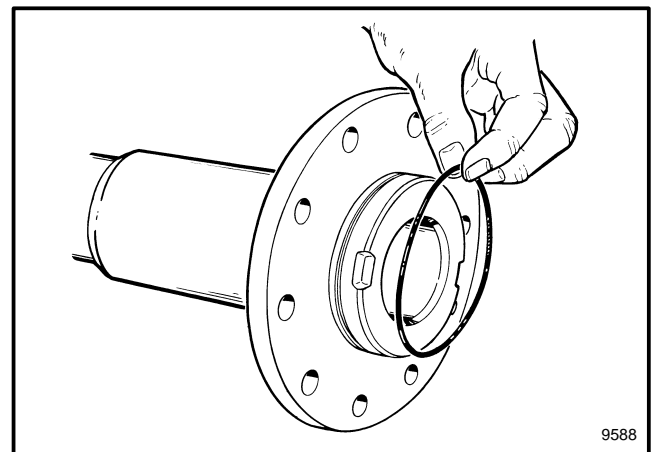

FIGURE 12. INSTALL NEW O-RINGS
18. If removed, install the axle spindles on the axle housing. Install new O-rings on the axle spindles. See FIGURE 12. Install the axle spindle into the axle housing. Tighten the capscrews to 90 N.m (66 lb_f ft). Lubricate the axle spindles with Never Seez® and slide the mounts on the axle spindles.